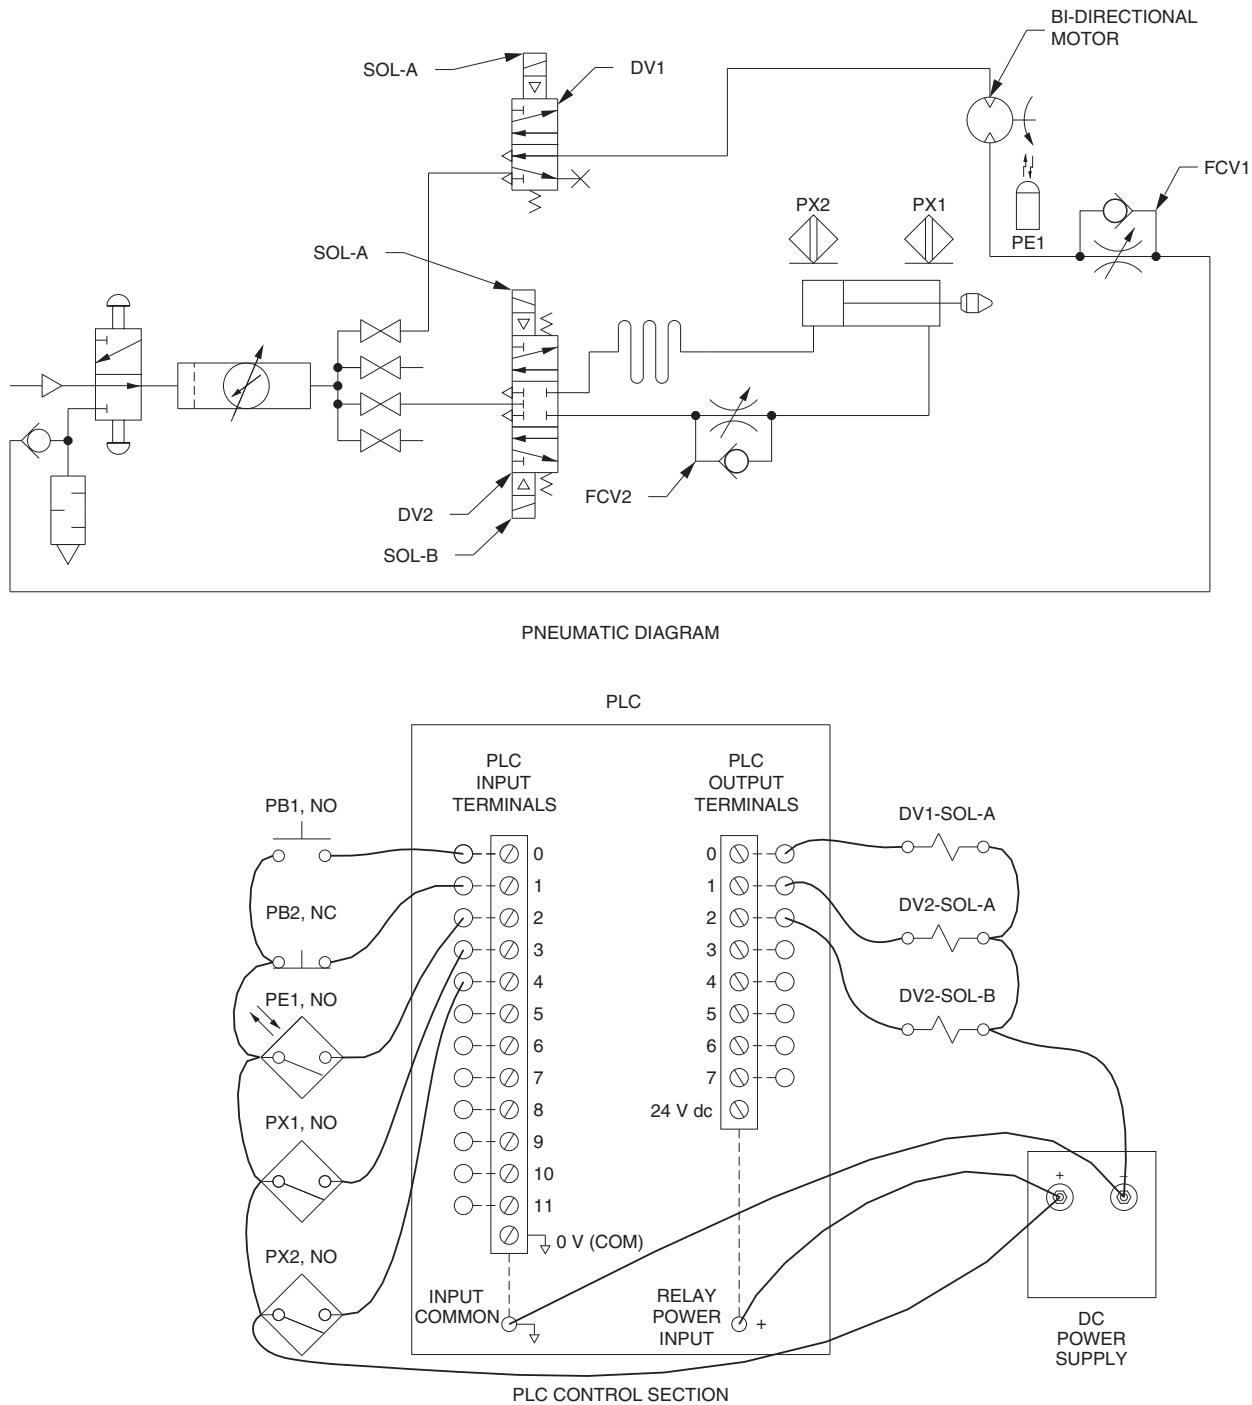

Figure 6-1. PLC-controlled pneumatic system.
- 1. Connect the PLC-controlled pneumatic system shown in Figure 6-1. Note that the long line device is used to decrease the retraction speed of the cylinder rod.
- 3. Mount magnetic proximity switches PX1 and PX2 so that they are activated when the cylinder rod is fully extended and fully retracted, as shown in Figure 6-1.